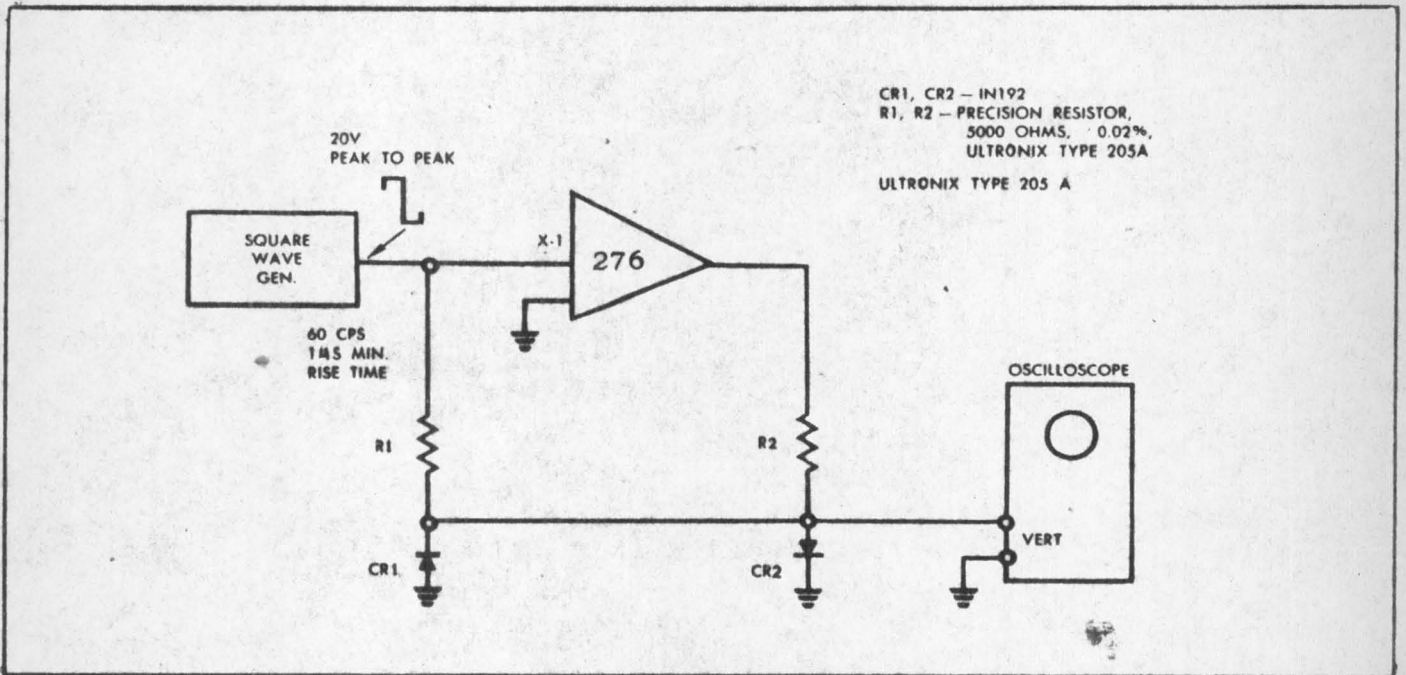

Figure 3.4 Test Setup - Model 276 Sample & Hold
a. Connect the Model 276 Sample and Hold and test equipment as shown in Figure 3.4.
If gains other than x-1 are used in making the settling time adjustment, value of the precision resistors in Figure 3.4 must be changed to obtain a null at the oscilloscope input.